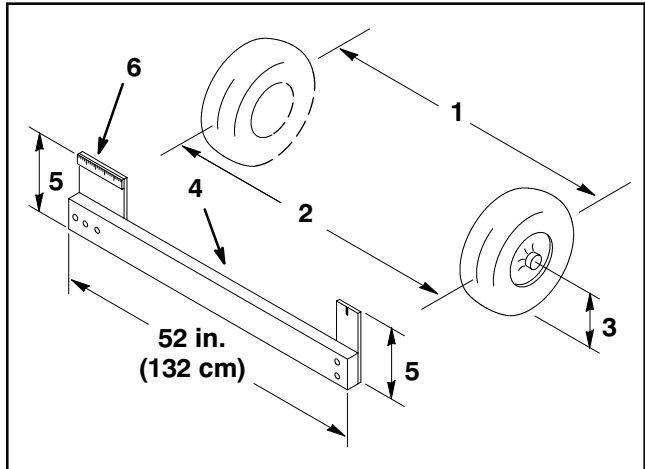

Figure 7
4. Measure distance between the front tires at axle height at both the front and rear of the tires. To obtain an accurate measurement at axle height, a universal alignment gauge (or equivalent) should be used (Fig. 7). Front wheel toe-in should be 1/8 to 5/8 inch (3 to 16 mm).